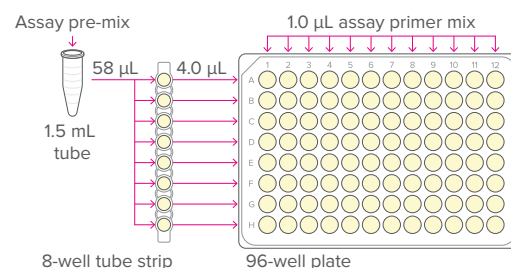

Figure 1. Preparation of sample mixes
- Pipet 58 µL of the assay pre-mix into each well of a new 8-well strip (see Figure 1).